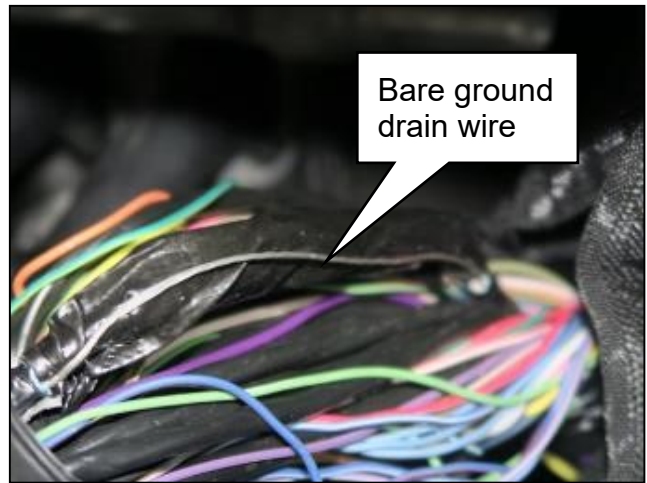

Figure 23
- Verify the bare ground drain wire is outside of the splice tape as shown in Figure 23.